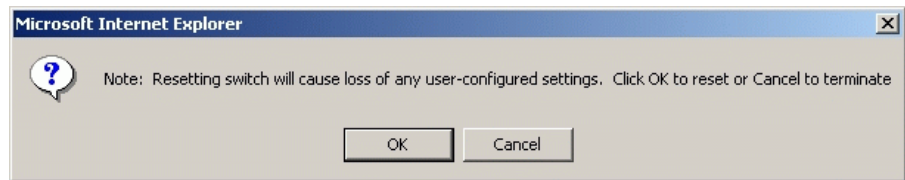

Figure 4-36 Browser-Specific Message Box
5. Click *Reset Configuration*. A browser-specific message box displays (Figure 4-36 on page 4-42).